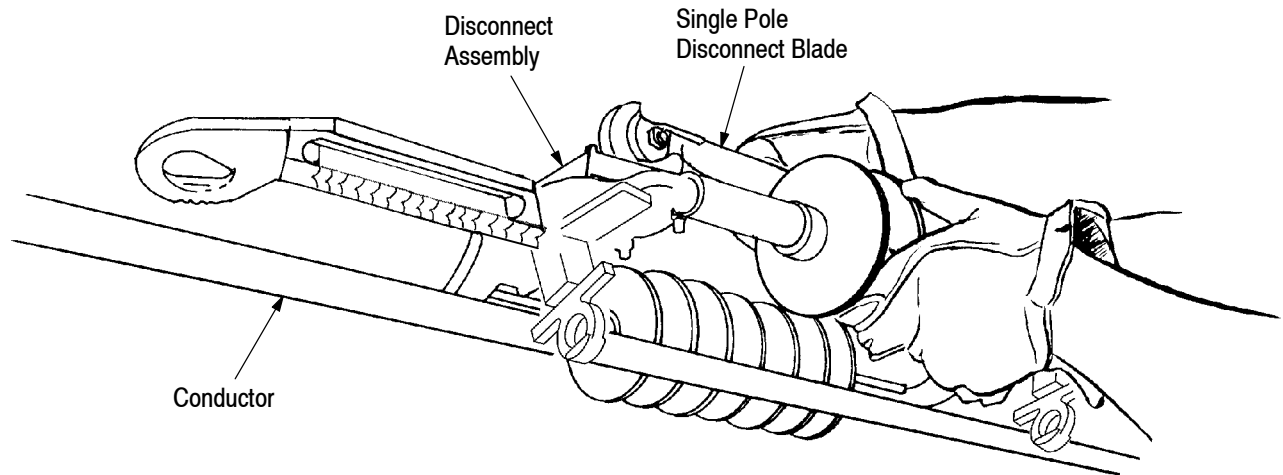

Figure 3
4. Holding on to the single pole disconnect blade, position the assembly above the clean conductor with the blade centered over the conductor, as shown in Figure 3.